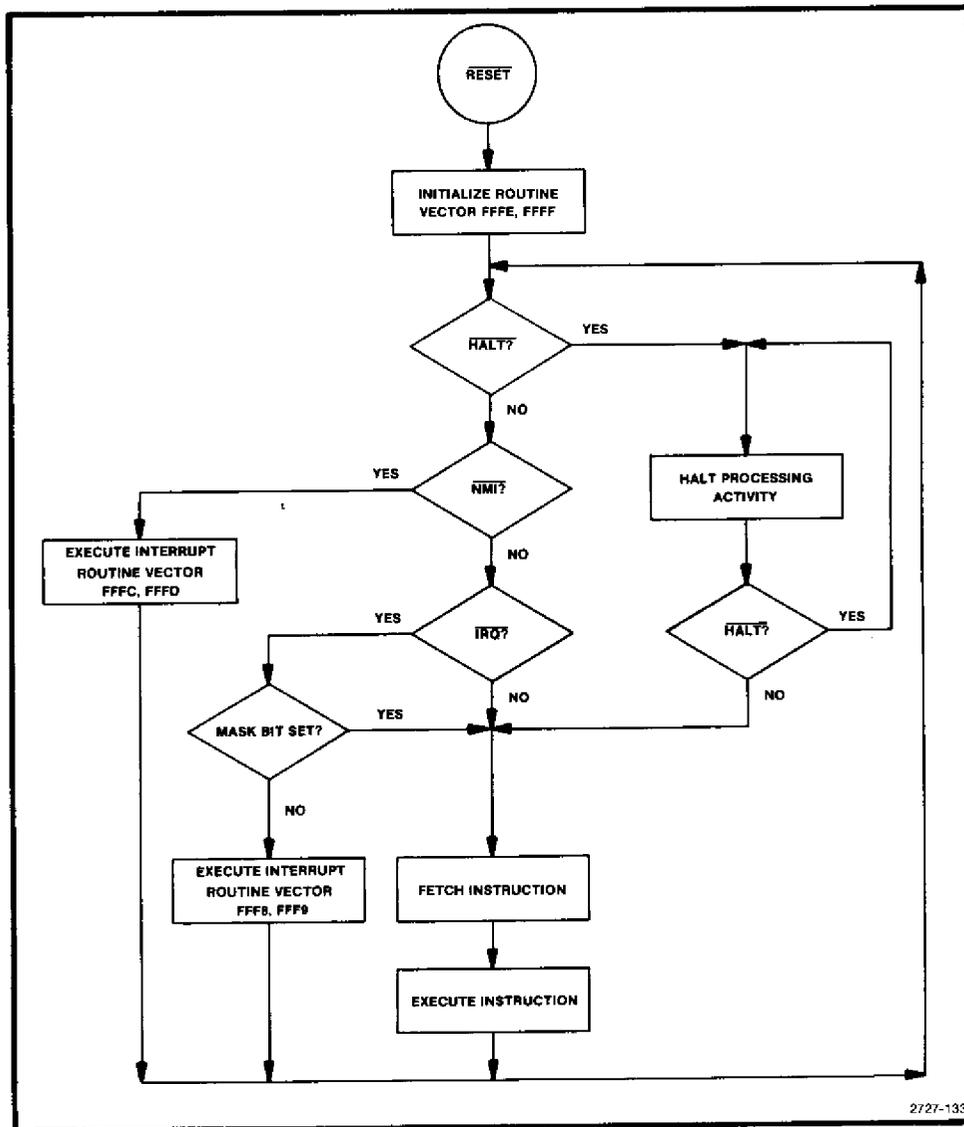

Fig. 5-29. Flow chart of the 6800 main decision paths.
**RESET.** This input initializes the 6800 following power-up. The clock generator (U4035) holds this line low for about one second for 6800 start-up. After the input goes high, the 6800 begins its initialization routine at the address stored at FFFE and FFFF. This routine masks interrupts until it is ready to handle them. It then continues executing the operating program according to the flow chart in Fig. 5-29.